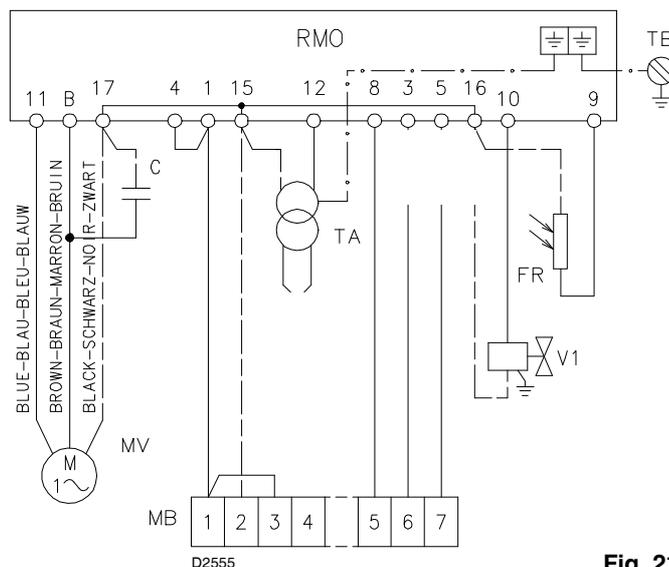

Fig. 21
- LAYOUT (Fig. 21)
#### Key to Layout (Fig. 21)